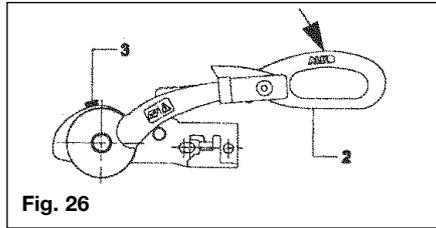

Fig. 26
**Warning:** The coupling is correctly engaged when the green edge of the safety indicator button is visible (Fig. 26/Item 3).
To operate the Stabiliser (once coupled to the towball), simply press the stabiliser lever down as far as it will go (Fig. 26/Item 2).